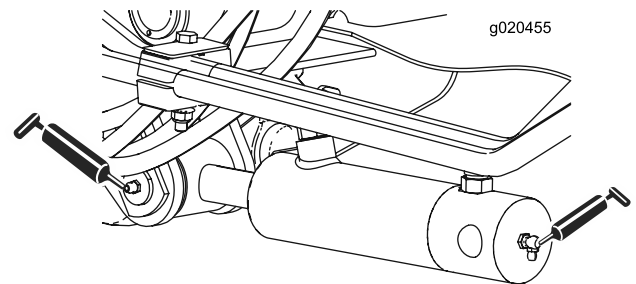

Figure 39
- 2 (each side) lift-arm-cylinder bushings (Figure 39)